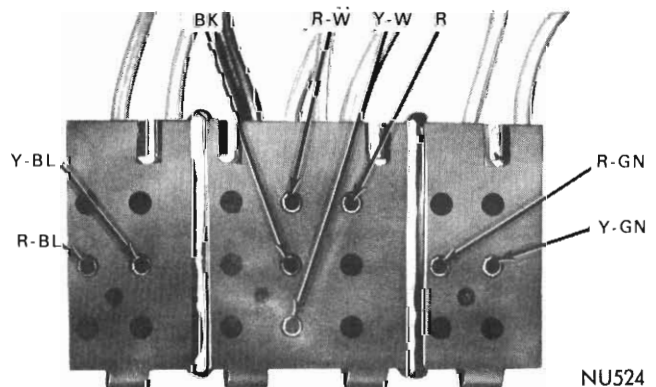

Fig. 52 – Electrical test area location
(1) Disconnect wire from instrument panel feed at circuit breaker.
(2) Connect test lamp in series between instrument panel feed and good ground. If test lamp lights feed-in wiring is good.
(3) Remove test lamp and connect feed to circuit breaker.
(4) Disconnect wiring from other side of circuit breaker. Connect test lamp in series between circuit breaker and good ground, if test lamp lights circuit breaker is good.
(5) Remove test lamp and connect wiring harness.
(6) Disconnect wiring harness at connector under seat. Connect test lamp between red (R) and black (BK) wire in female connector on harness, if test lamp lights harness to seat is good.
(7) Remove test lamp and connect harness.
(8) Remove switch from seat harness.
(9) To check front motor, connect a covered jumper wire between the red (R) terminal in the centre section (Fig. 52), either the red with blue (R-BL) tracer, or yellow with blue (Y-BL) tracer connection in the front section. Connect a second covered jumper wire between the black (BK) ter-
(10) To check centre motor, connect a covered jumper wire between the red (R) terminal of the centre section (Fig. 52) and either the yellow with white (Y-W) tracer, or red with white (R-W) tracer connection in the centre section. Connect a second covered jumper wire between the black (BK) terminal in the centre section and the open connection in the centre section, if motor does not operate, reverse the jumpers (R-W and Y-W). If motor still does not operate, either the harness or complete three-motor assembly should be replaced.
(11) To check rear motor, connect a covered jumper wire between the red (R) terminal in the centre section (Fig. 52) and either the red with green (R-GN) tracer, or yellow with green (Y-GN) tracer connection in the rear section. Connect a second covered jumper wire between the black (BK) terminal in the centre section and the open connection in the rear section, if motor does not operate, reverse the jumpers in the rear section. If motor still does not operate, either the harness or complete three-motor assembly should be replaced.
(12) If all motors and the seat operate properly, this indicates that the switch is bad and should be replaced. For additional wiring diagrams see "Wiring Diagram" section at end of this group.